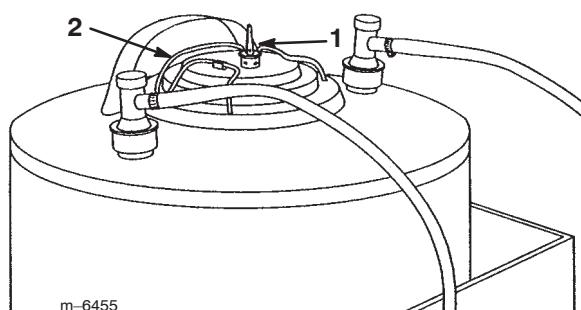

Figure 35
2. Flip the pressure relief valve to the upright position (Fig. 35).
- Relieve pressure within tank by flipping the pressure release valve into the upright position. (Fig. 35)